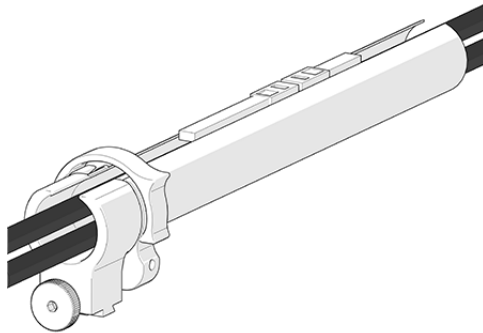

Figure 3-54 Zip opposite end
3. Once the cable is placed the entire length of tube, bring the zipper from the tubes opposite end, meeting at any point in the middle (see Figure 3-54 on page 75).